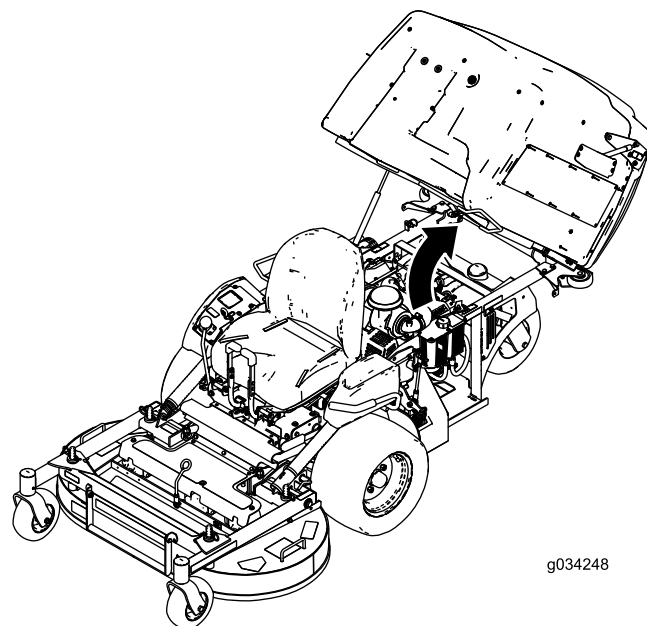

Figure 28
2. Raise up the hopper (Figure 28).